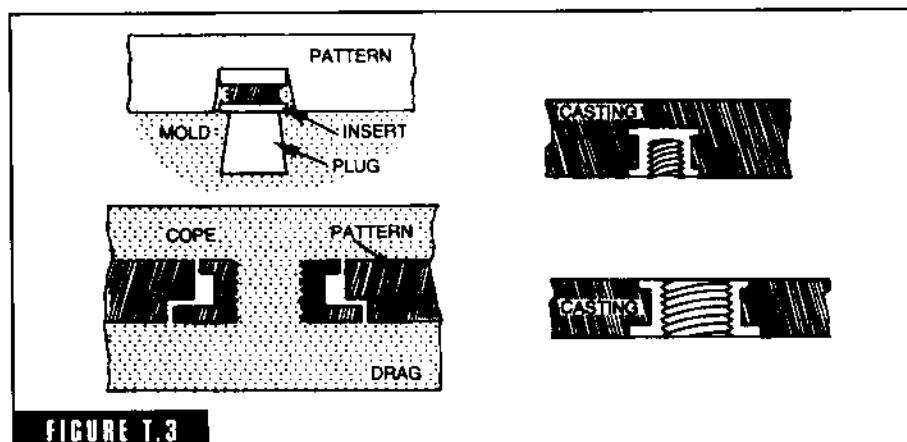

FIGURE T.3
**threaded inserts** Threaded inserts are used where an accurate thread is necessary. They differ from screw shells in that they are machined from black bar stock and can be furnished in many different diameters and thread sizes (Fig. T-3). They produce a much better thread than screw shells and can be designed to meet varying metal thicknesses surrounding the insert. Threaded inserts are used in chilled castings where drilling and tapping are impossible. Either an open-end or closed-end insert can be used.